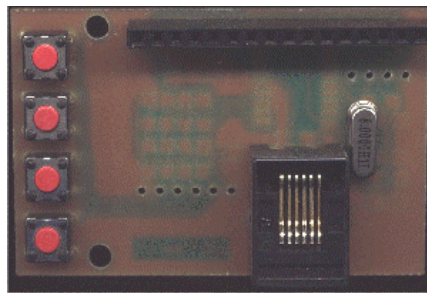

Figure 3: 1-Wire LCD Demo board Top
Figure 3 shows the 1-Wire LCD Demo board. At the top of the board is the LCD connector that supports a wide range of displays, from 1 Line x 8 Characters up to 2 Line x 40 Characters. On the left side of the board are the four push button switches that are connected to the four inputs (GPIOs). At the bottom is the 6-pin (RJ11) 1-Wire bus connection. Next to the RJ11 connector are 6 holes for a connector to take the GPIOs external. Underneath the RJ11 connector is also holes for a 4-pin connector to the 1-Wire bus instead of the RJ11.
1. Obtain the 1-Wire LCD Demo boards (Figure 3 and 4 above) and use them in custom end products.